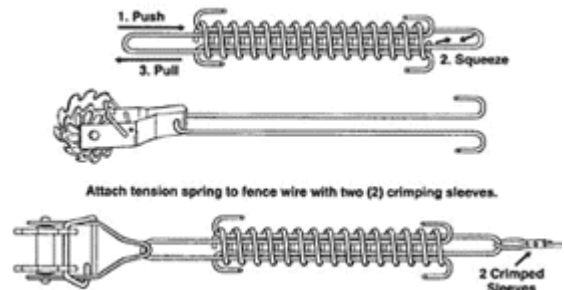

Figure 10
- ❑ Install a tension spring on the second wire from the top to indicate tension prior to tightening the in-line strainers. (Figure 10)